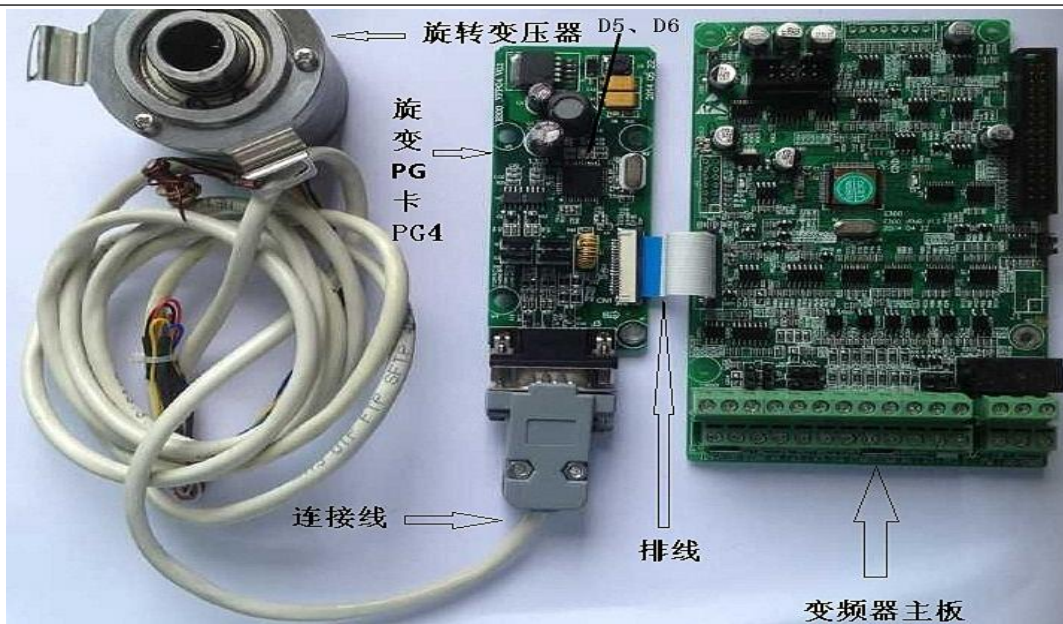

Figure 4: PG-RB test
- 2) Connect the PG-RB card to the encoder. As shown in Figure 4 below: